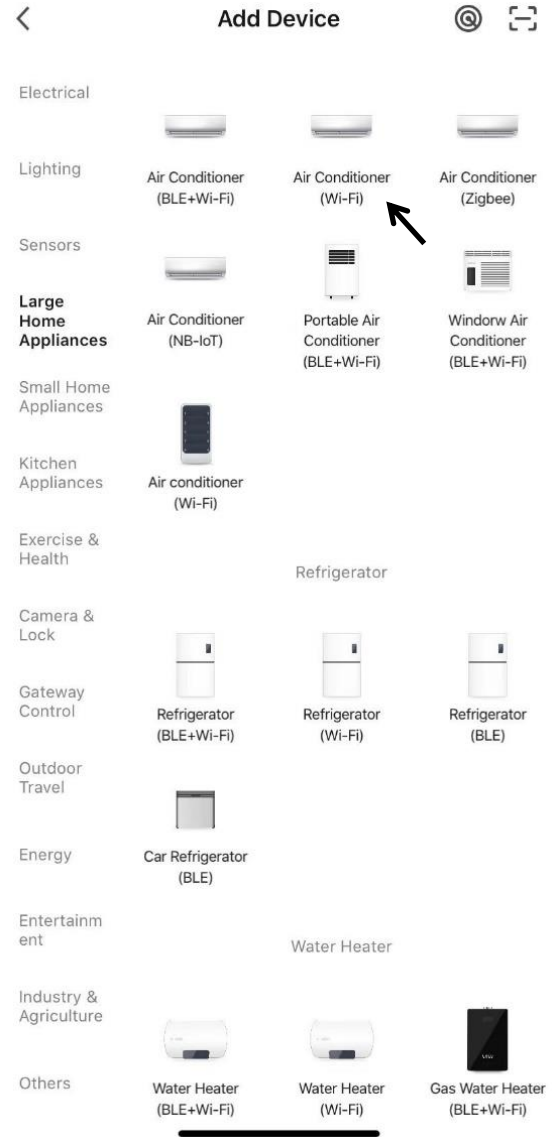

Fig.2
- Twist both hose connectors onto the hot air exhaust hose. **(Fig.2)**
3. Find "Large Home Appliances" and tap the icon "Air Conditioner (Wi-Fi)". (Fig.2)